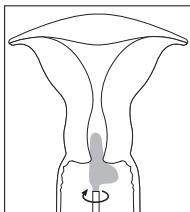

Fig. 2
4. Holding the swab in this position, rotate the swab 3 times counterclockwise direction and 3 times clockwise direction, making sure that the long section of the "L" is in contact with the cervical canal and the short section of the "L" rotates around the ectocervix. See Fig. 2